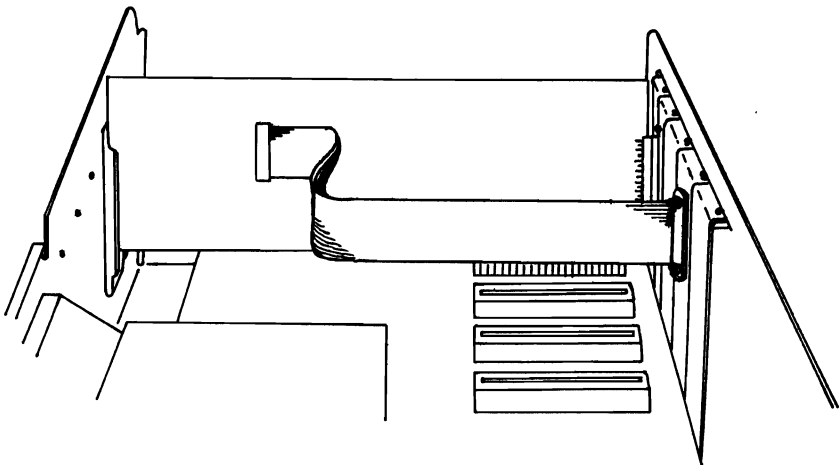

Figure 17
8. The parallel port cable is attached at one end to the P2 connector (See Figure 4) and at the other end to a black metal Option Retaining Bracket (ORB). Place the ORB attached to the end of the parallel port cable into the open slot, as shown in Figure 17.